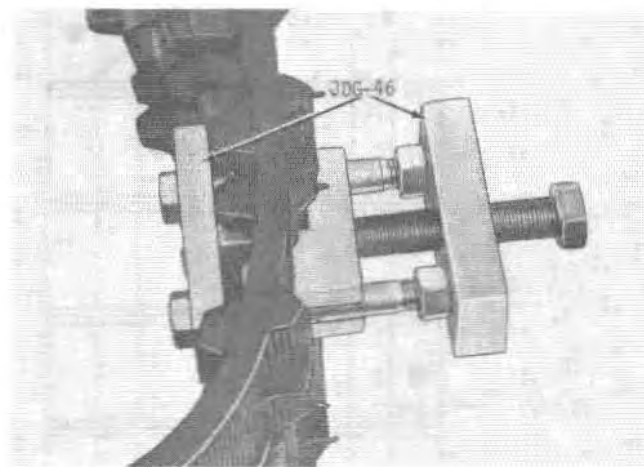

Fig. 3-Installing Wear Clip
2. Use Track Wear Clip Installing Tool JDG-46, Fig. 3, to install new wear clip.